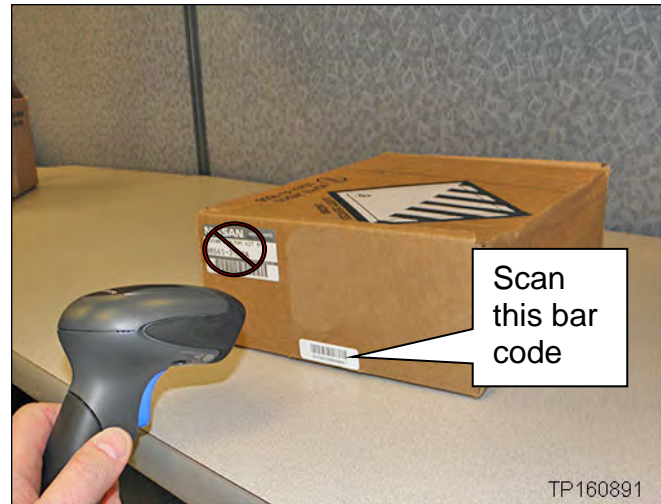

Figure 6
6. Use the Quick Scan Tool to scan the bar code (serial number) on the side of the box of the new inflator (see Figures 6 and 7).